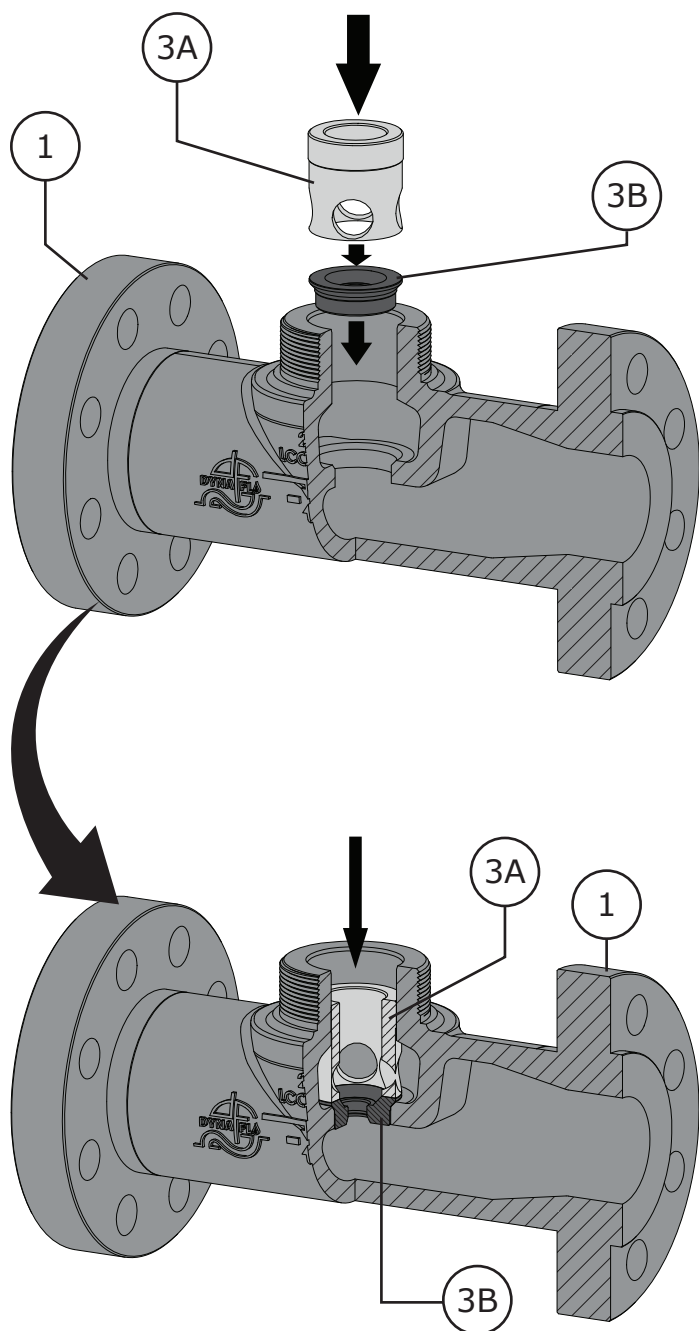

Figure 31 Discontinued Two-Piece Cage/Seat Ring Installation
- 2 Install the seat ring (Key 3B) into the bore of the valve body (Key 1) as shown in Figure 31.